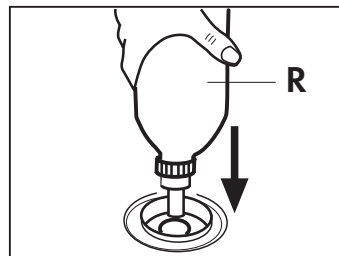

Fig. 5
- tilt the bottle on the boiler fill hole and pour the water in; for this operation, you need to deactivate the safety device by pressing the cap against the bottle **(Fig. 5)**.